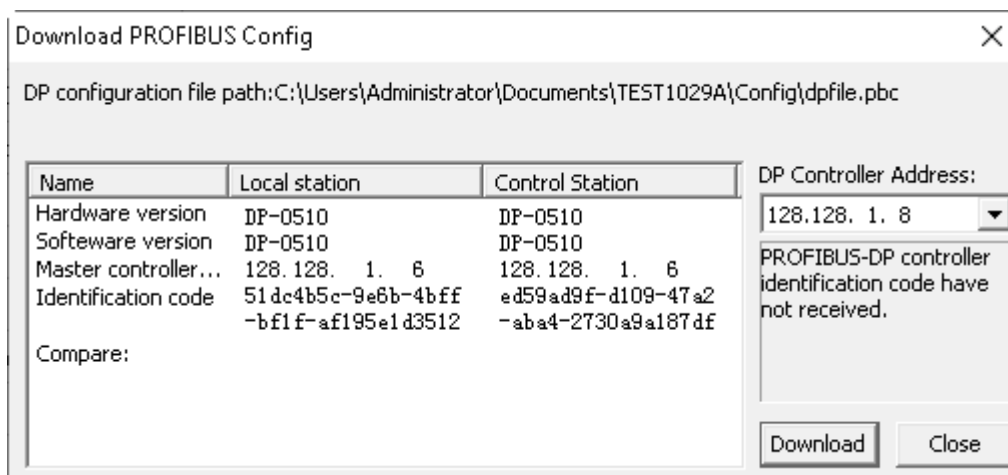

Figure 4-44 Download DP
- Select command of **Overall Information\ DP Download** in menu, dialog box shown as Figure 4-44 will popup.